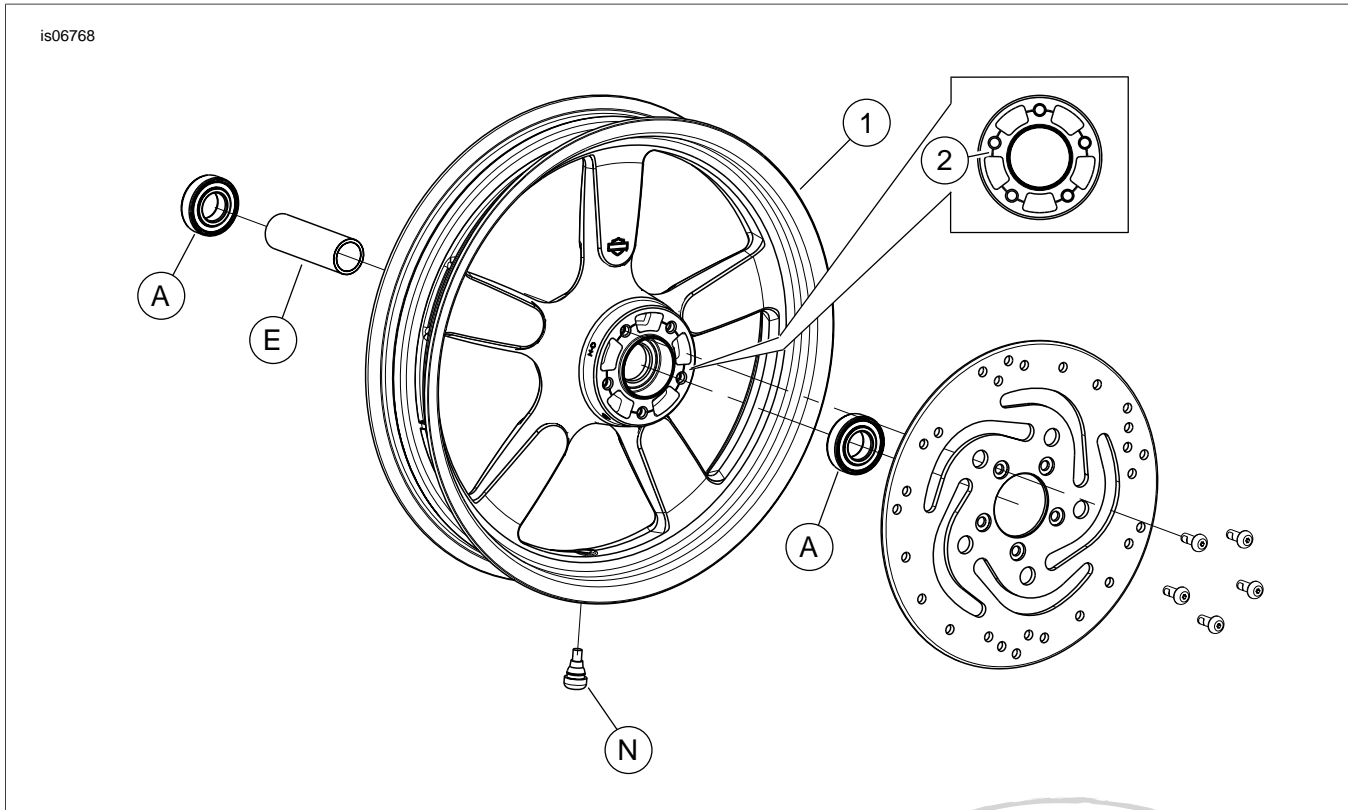

Figure 2. Service Parts: Front Fat-X Wheel
2. See Figure 2. Install valve stem assembly (N) on wheel. Refer to TIRES in service manual.